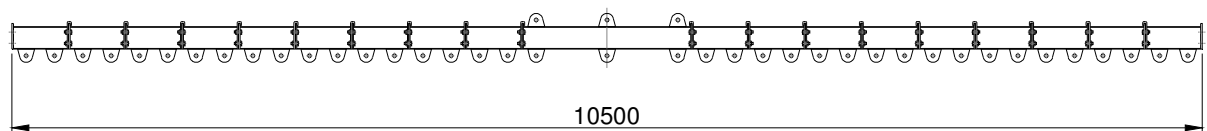

Figure 3 – Maximum Overall length of 5 tonne Lifting Beam
5. Extension pieces are to be added as per Steps 2 through 4 until the desired lifting length has been reached. The overall length of the lifting beam is not to exceed 10.5 m – see Figure 3.